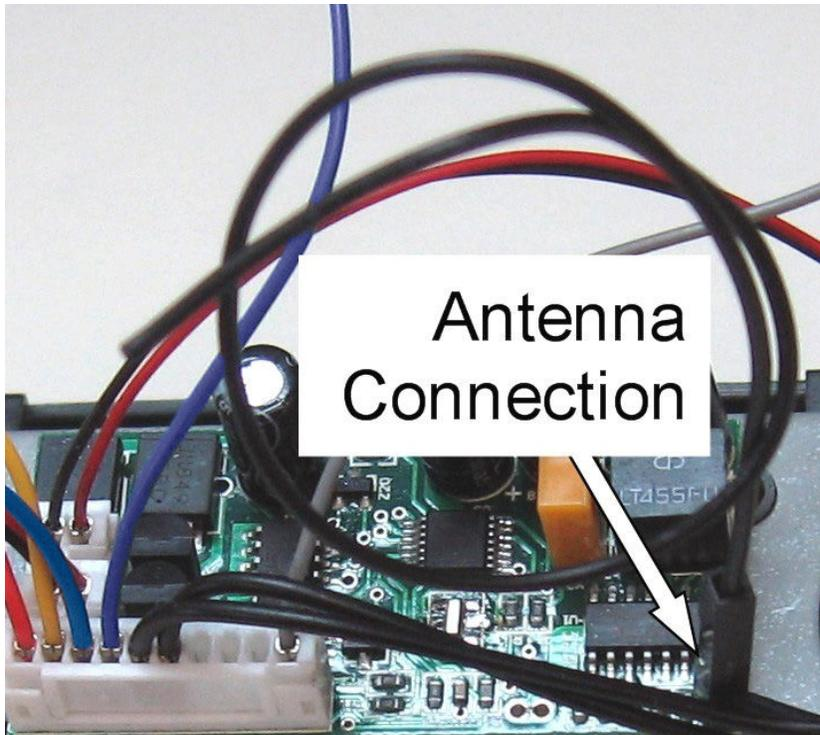

Figure 4 – Antenna installed for testing
1. Temporarily plug in the antenna wire. Loop the wire as shown in Figure 4 to keep it from touching anything else. Also ensure that no other wires will be dragging during the test run.